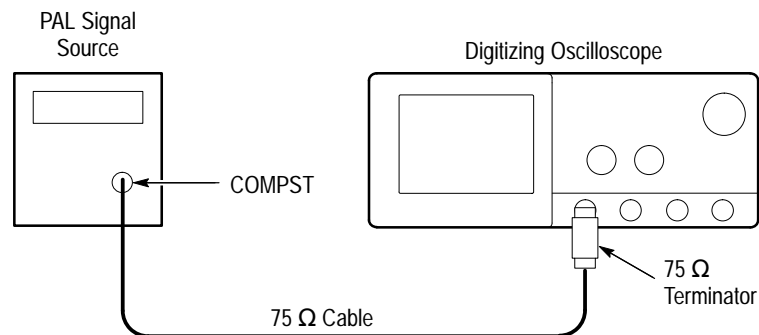

Figure 1–25: Jitter Test Hookup
- a. Setup equipment for Jitter Test. See Figure 1–25.
- b. CHECK that the oscilloscope lights up its front panel **TRIG'D** LED and it displays the waveform on screen. See Figure 1–26.